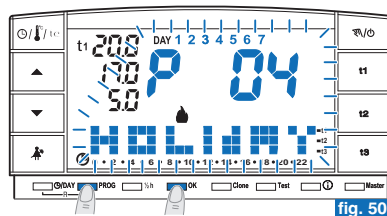

fig. 50
- Press **PROG** repeatedly until **P 04 HOLIDAY** appears intermittently on the display. Press **OK** to confirm (fig. 50).